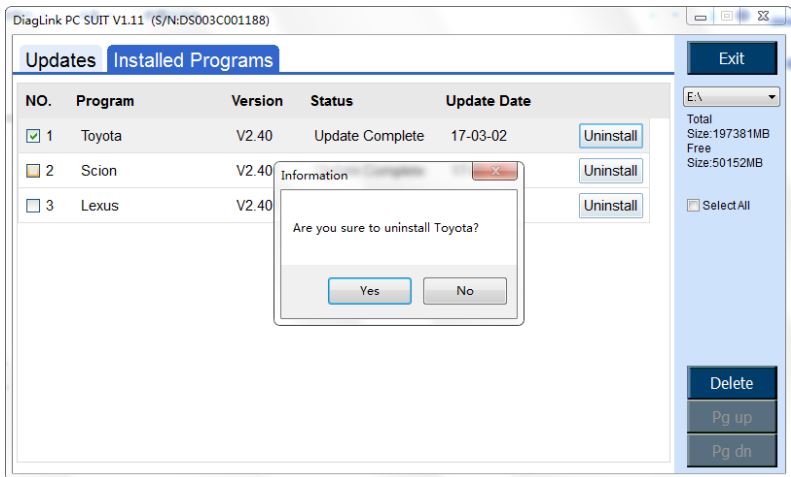

Figure 10.11
- A window asking “**Are you sure to uninstall XXX?**” will pop up for your confirmation (Figure 10.11).